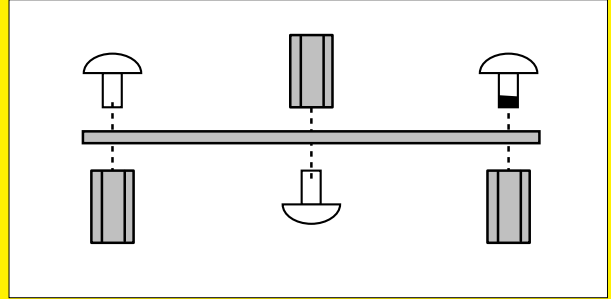

Figure 5. Assemble the support bar and spacers.
3. Mount three spacers to the support bar using screws, as shown in Figure 5.